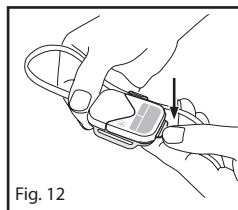

Fig. 12
1. Push down on the tab to release the reusable chip from the sensor. Refer to **Fig. 12**.